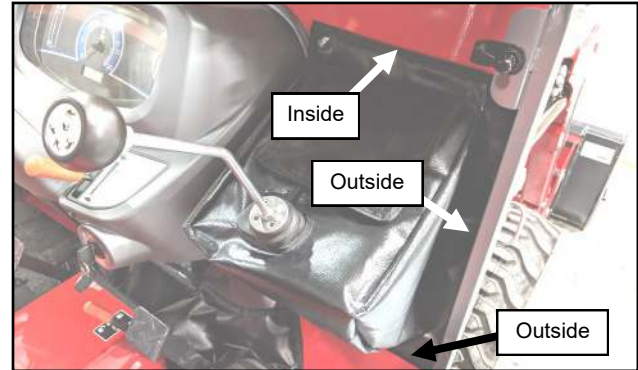

Fig. 1.3 (Set The Loader Control Filler Into Place)
- 1.3 Slide the filler over the loader control lever and set into place. See Figure 1.3. NOTE: If the filler does not align well with the loader control valve, loosen the mounting bolts for the loader control valve and adjust its position. The top edge of the filler attaches to the inside of the cowl, while the right side, bottom, and left side transition to the outside of the cab and vehicle.